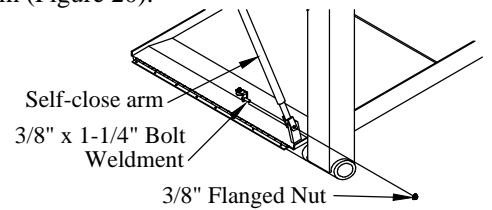

Figure 20: Self-close arm parts.
7. **Remove** the 3/8" x 1-1/4" bolt weldment that holds the self-closing arm to the platform (Figure 20).